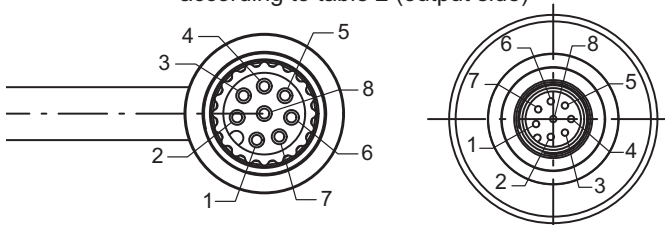

Fig. 1: M12 connector for sensor, PAD4001A/4003A (left) and PAD4002A (right)
- ▶ Connect sensor at M12 connector (fig. 1) according to table 1 (input side)